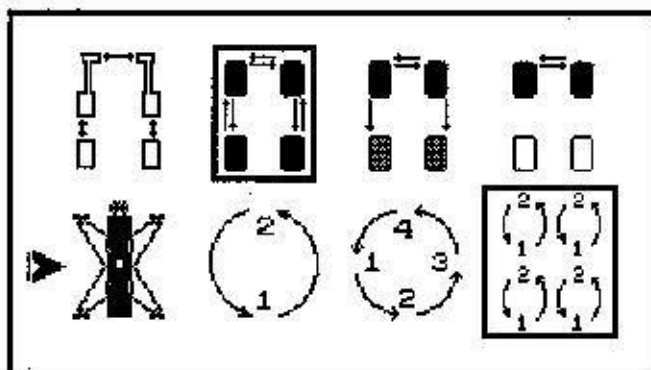

Figure 2-41
1. Follow the instructions under "To Change the Default Runout Mode" in the "Setup" section. The screen shown in Figure 2-41 will appear when 4-Wheel Runout is properly selected.